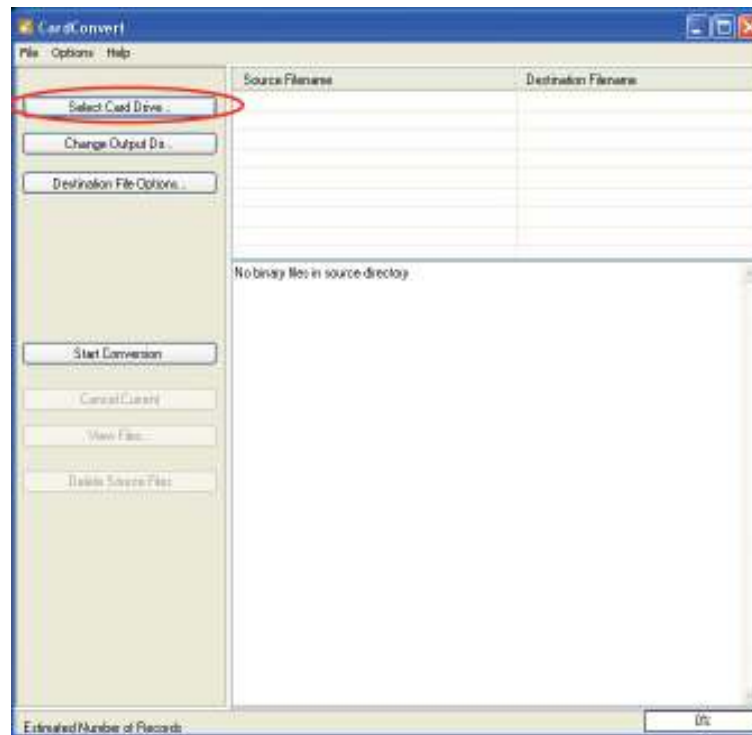

Figure 11: Card Convert window used for convertin data logger memory card into a usable file.
- a) From the PC200W **Tools** menu, select **Card Convert**. This will open up the Card Convert Window (see Figure 11).